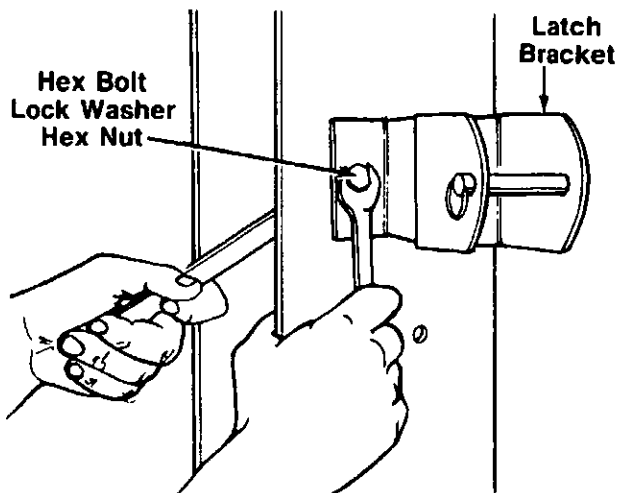

FIGURE 6.
2. With the beam still in the upright position, place the pivot latch on the beam as shown in figure 6. ← Secure with hex bolts, lock washers and hex nuts just removed. Tighten securely.